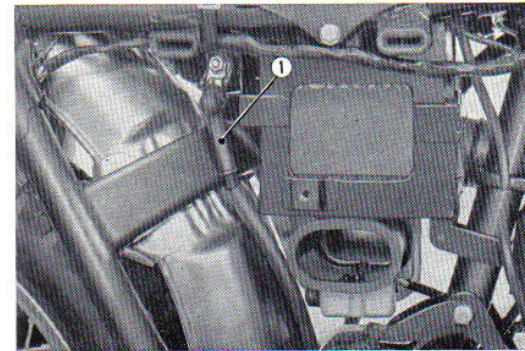

Fig. 3.6 Removing the starting motor cable
9. Remove the starting motor cable. (Refer to Fig. 3.6)